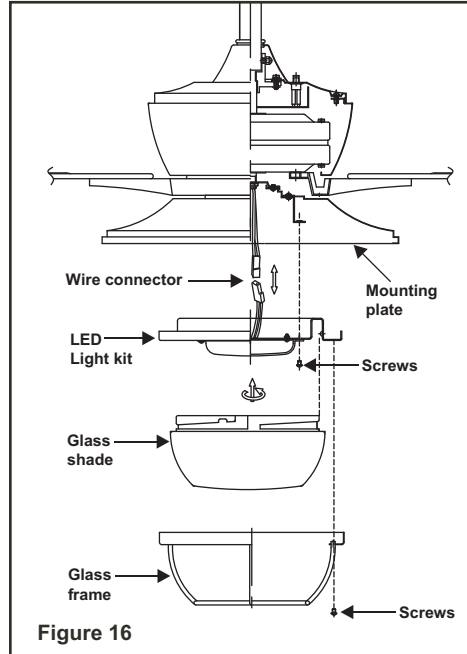

Figure 16
Step 1. Remove the 1 of 3 screws from the posts of the mounting plate and keep it for future use. Loosen the other 2 screws. (Do not remove) (Fig. 16)
Step 3. Place the key holes in the LED light kit over the two screws previously loosened from the mounting plate. Turn the LED light kit until the LED light kit locks in place at the narrow section of the key holes. (Fig. 16)
Step 4. Securely tighten the two light kit mounting screws previously loosened and the one previously removed. (Fig. 16)
Step 5. Raise glass shade up against the LED light kit, and secure it to fan by turning light kit shade clockwise until snug. DO NOT OVERTIGHTEN. (Fig. 16)
Step 6. Install the glass frame onto the light kit with the four screws provided. Be sure to tighten all screws. (Fig. 16)